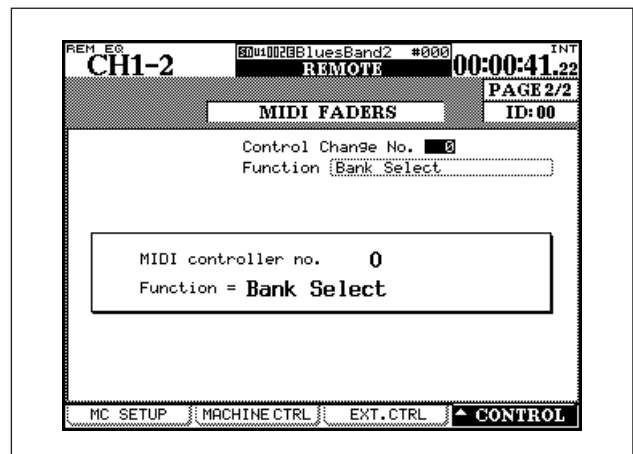

Figure 8.5: MIDI Faders setup screen
- 2 Set the Control Change message using the **CONTROL** setup screen (below at Figure 8.5,